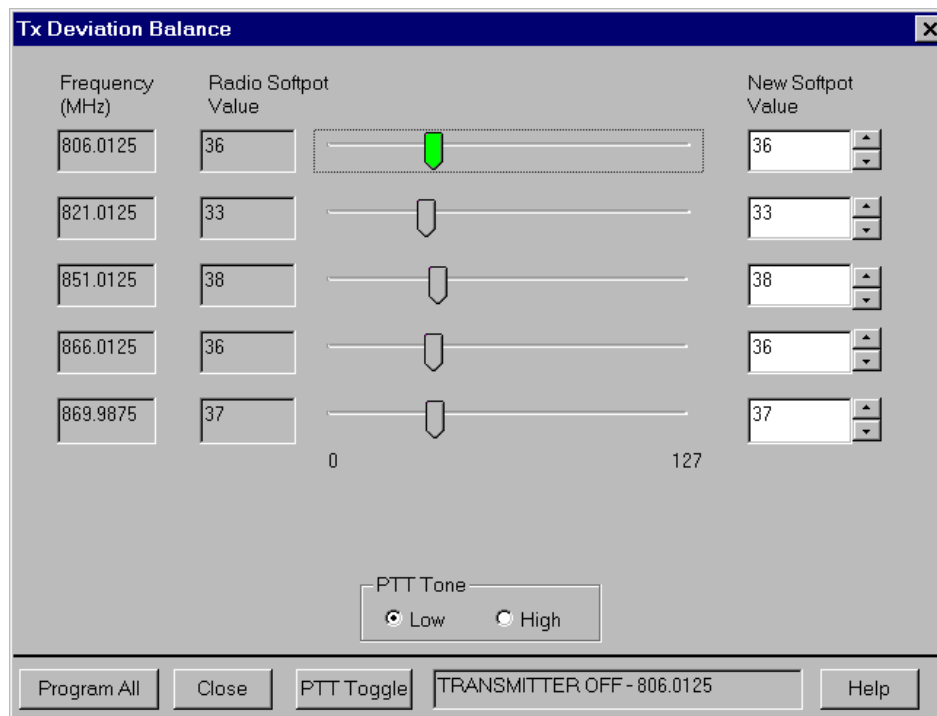

Figure 6-16. Transmit Deviation Balance (Compensation) Alignment Screen
3. Select the **TX Deviation Balance** alignment screen. The screen will indicate the transmit frequencies to be used. See Figure 6-16.